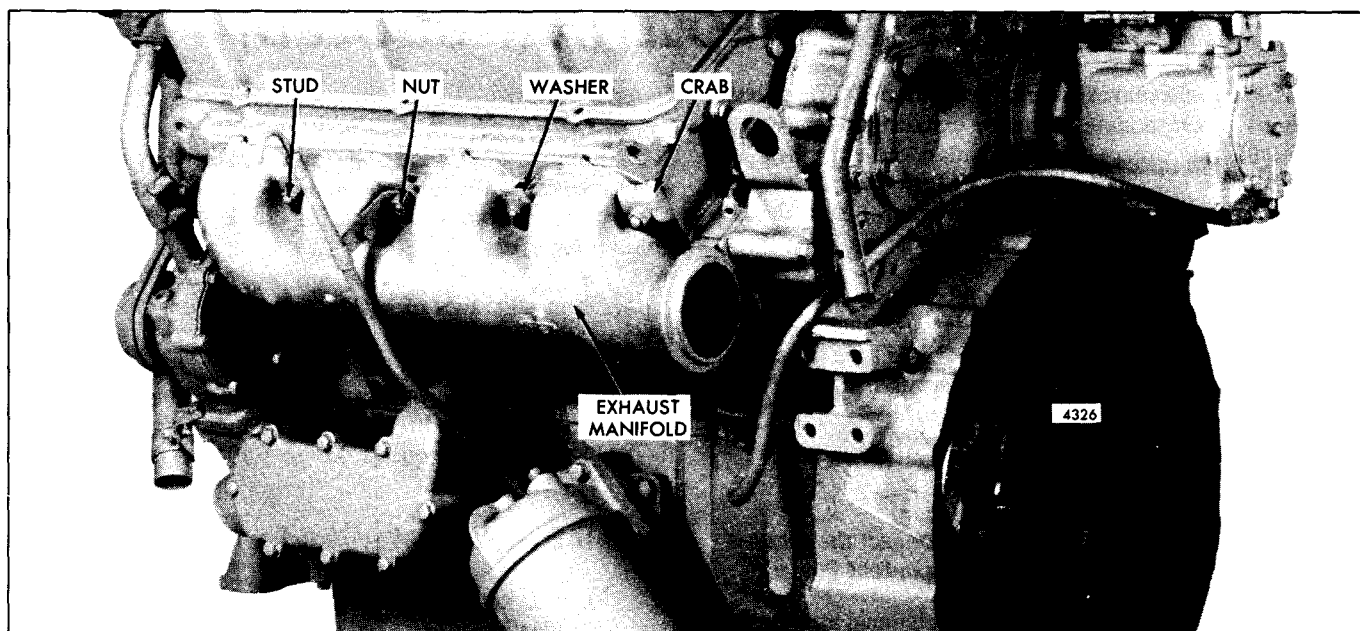

Fig. 2 – Exhaust Manifold with Marmon Flange
Two types of exhaust manifolds are used. One type has an outlet to accommodate a square exhaust outlet flange (Fig. 1) and the other has a circular outlet which is connected to the exhaust pipe with a Marmon-type clamp (Fig. 2). Current manifolds, flanges (square) and flange gaskets have SAE standard dimensions.
3. Install the washers and nuts on the studs. If beveled (dished) washers are used, position them so that the crown side faces the nut. On some engines, crabs are used in place of washers at the end positions (Fig. 2). Beginning with one of the center stud nuts and working alternately toward each end of the manifold, tighten the nuts to 30-35 lb-ft (41-47 N·m) torque.